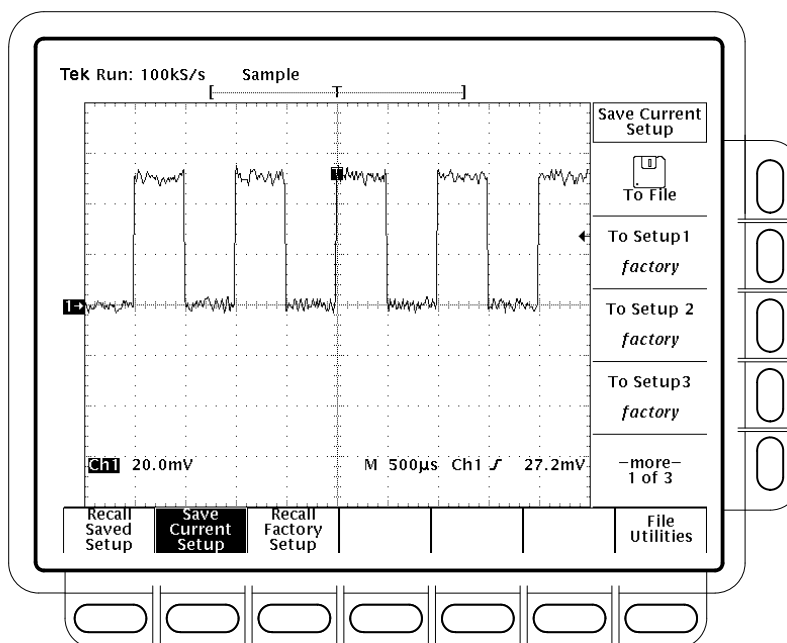

Figure 3–65: Save/Recall Setup Menu
2. To store to a setup internally, choose one of the ten internal storage locations from the side menu **To Setup 1, To Setup 2, ...** (see Figure 3–65). Now the current setup is stored in that location.